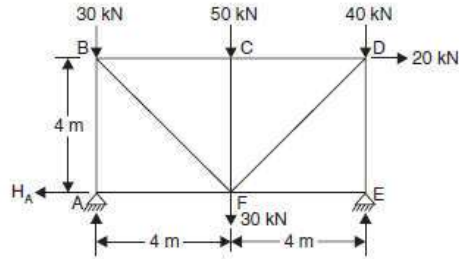

Figure.1
1. Determine the force in the members of the truss shown in the following Figure.1
3. Determine the force in the members BC, CE and EF of the truss of Figure.1 using method of sections.